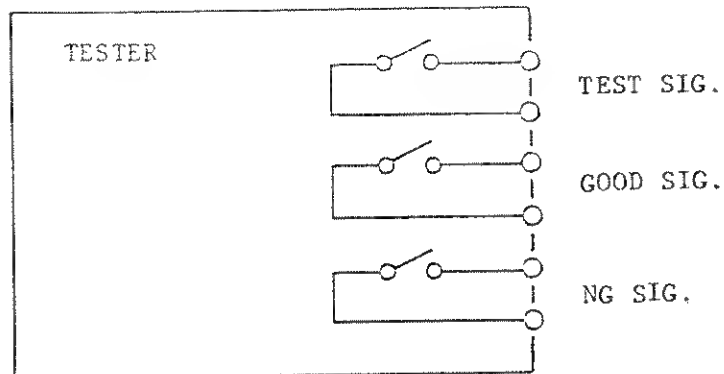

Figure 4.10
① TEST	During test period	Make-contact signal Ratings: 100 V AC, 1 A 30 V DC, 1 A
② GOOD	For 200 msec when test is over
③ NG	When NG judgement is made
- ① TEST ON signal: This signal is generated and remains on for the entire period of the test.
- ② GOOD signal: This signal is generated when the GOOD judgement is done at the end the test with the timer. The signal lasts for approximately 200 msec.
- ③ NG signal: This signal is generated when the NG judgement is done. The signal lasts until the next RESET signal is applied.
(2) Contact Signals
- ① The contact signals are only with contacts and without any power sources as shown in Figure 4.10. Therefore, they cannot drive any loads which have no own power sources.